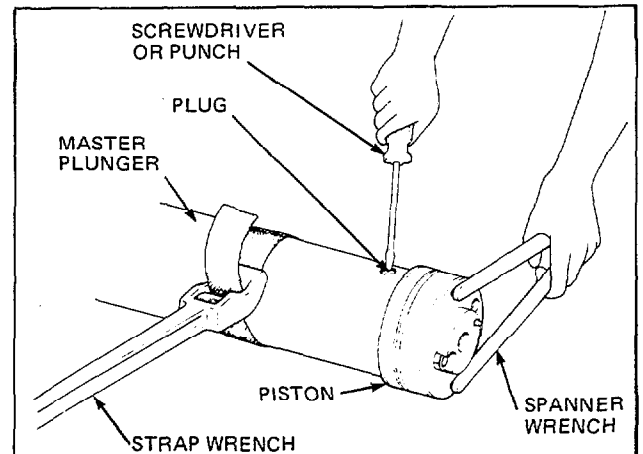

Figure 10. Removing the Piston from the Master Plunger
- c. Depress the sequence valve plug protruding through a hole near the base of the master plunger with a screwdriver or a punch. Then, using a spanner wrench in the holes provided in the piston, unthread and remove the piston from the plunger. See Figure 10. You may need a helper to hold the plunger with a strap wrench. When you have turned the piston the first 180°, use your screwdriver or punch to prevent the sequence valve plug
screwdriver or punch, push the plug in and keep turning the piston until it seats. Then back off no more than 1/2 turn until the plug snaps into one of the holes. Use the tools and procedures shown in Figure 10.